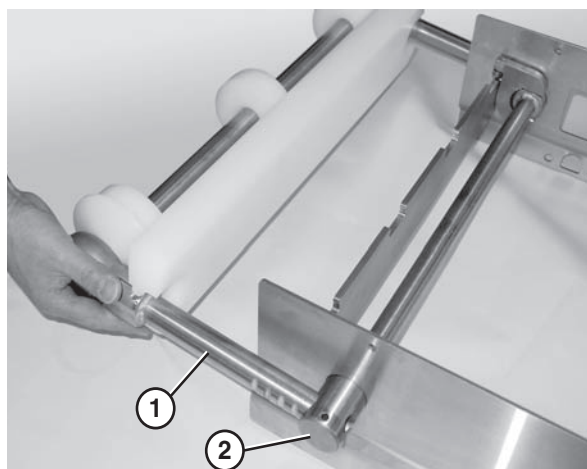

Figure 30
3. Slide the bearing shafts (**Figure 30, item 1**) into the holes in the tip up shaft (**Figure 30, item 2**).